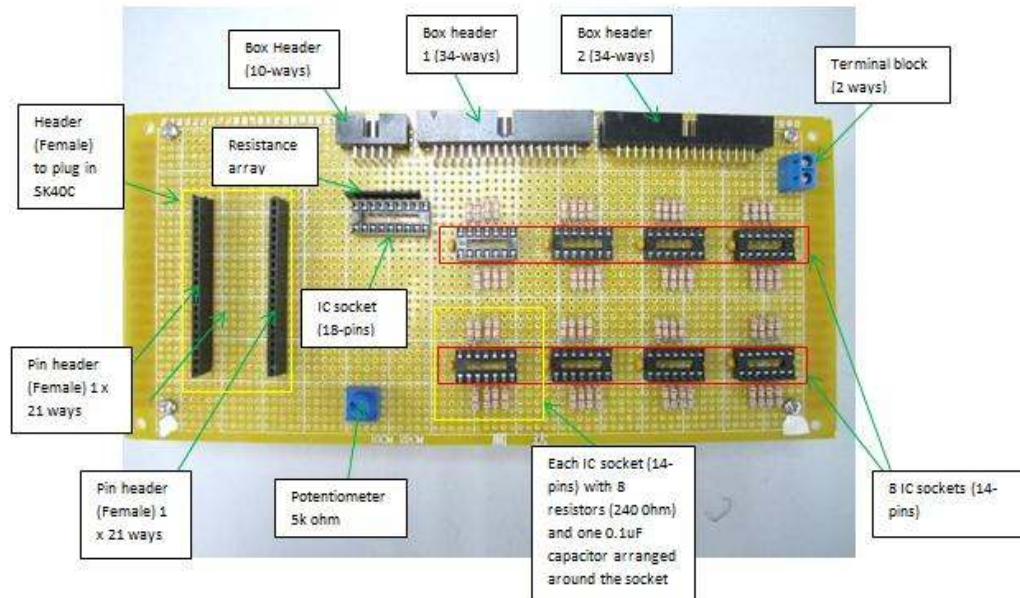

Figure 72: Overall arrangement of electronic components, socket and connectors on donut board
5. Please try to arrange electronic components, sockets and connectors stated above in the recommended orientations and positions as shown in the following diagrams (Figure 72,73,74,75 and 76) (especially the position of the box headers close to side of the donut board since the completed